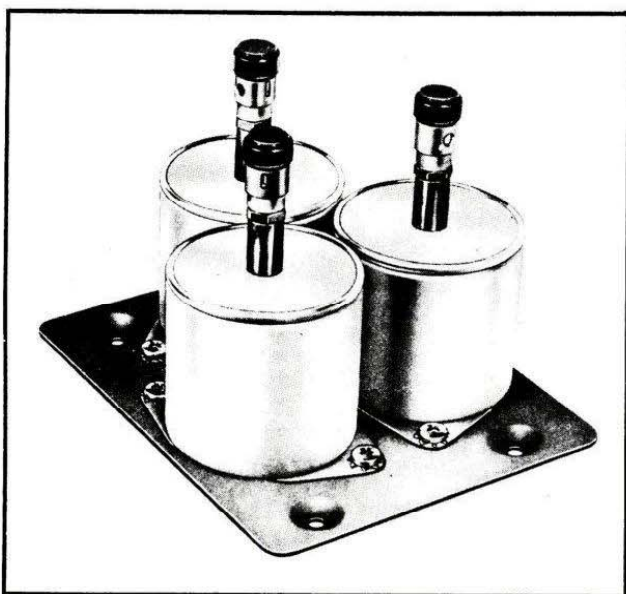

Figure 1-13—Antenna Shunt Capacitor CU-24/ART-13
(1) Antenna Shunt Capacitor CU-24/ART-13 (see fig. 1-13) is supplied for use with the transmitter. It is used whenever required (see sec. II, par. 7b(2) (jj)), to properly tune and deliver power to fixed aircraft antennas (20 to 60 feet long) operating in the 2000 to 3000 kilocycle range of transmission frequencies. The shunt capacitor unit consists of three individual 25 micromicrofarad capacitors mounted on a plate which serves as a common connection to one terminal of each unit. Each capacitor may be connected individually or collectively to the antenna system by means of the terminal at the top, thus providing capacitance values of 25, 50, or 75 micromicrofarads.
(2) Mounting holes are provided in the base of the antenna shunt capacitor to facilitate attachment to the aircraft structure.